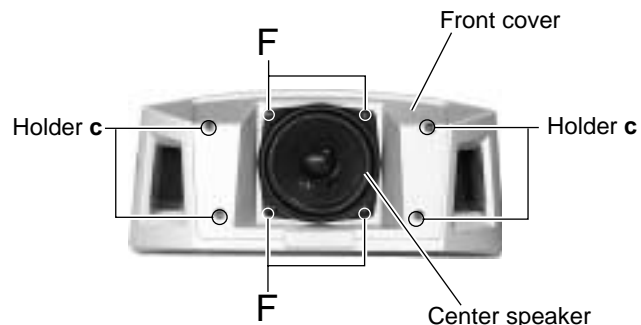

Fig.6
■ Removing the center speaker (See Fig.6)